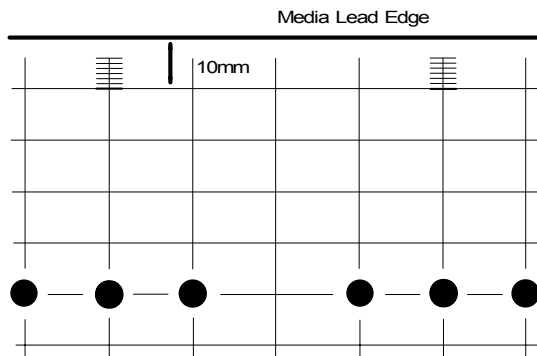

Figure 2 Lead Edge Registration
3. (Figure 2) Measure the arrow shown distance on test pattern 1. It should be measured as 10mm \pm 3mm.